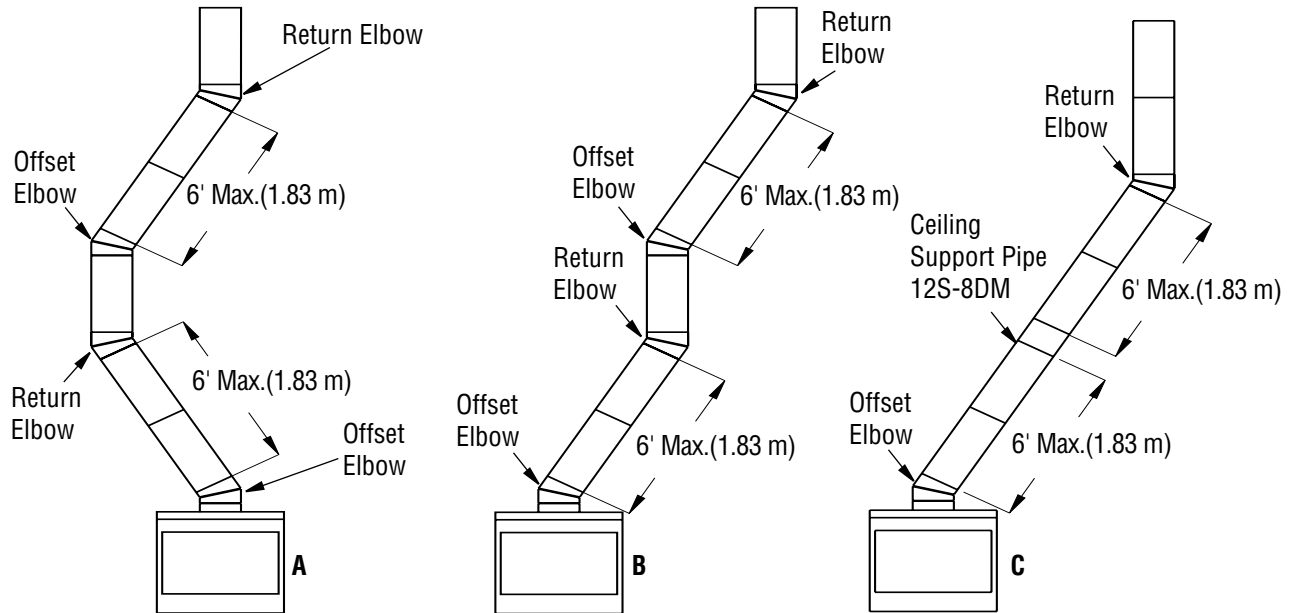

Figure 9 - Typical Offset Installation
3. Maximum length of pipe between supports (return elbow or 12S-8DM) is 6' of angle run. Maximum of two 6' angle run sections per chimney system (see Figure 9, page 9).